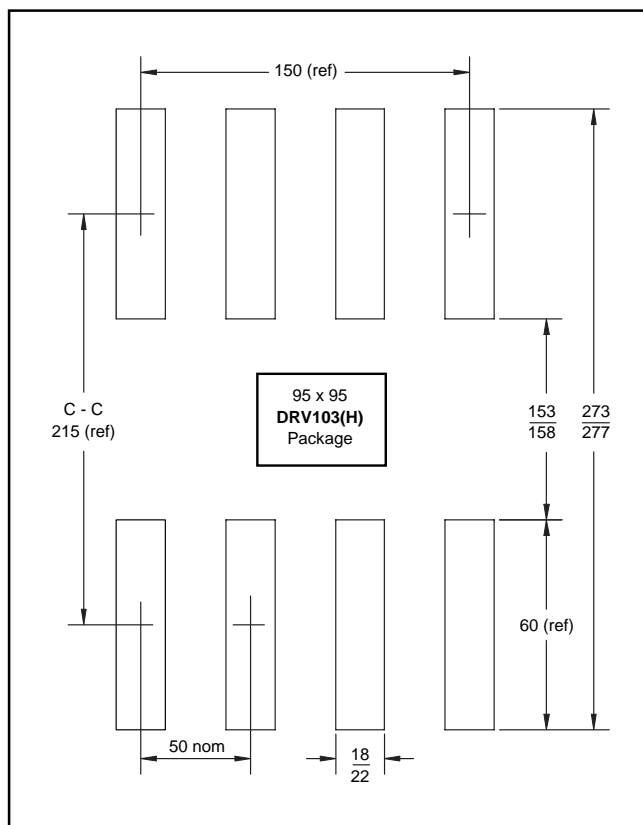
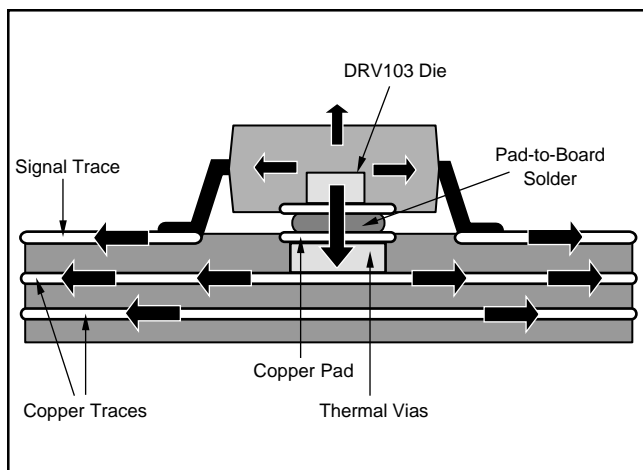
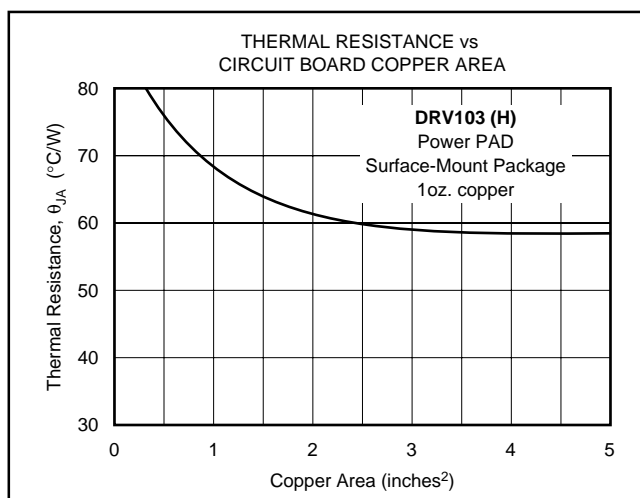

FIGURE 12. Recommended PCB Layout.
FIGURE 13. PowerPAD Heat Transfer.
FIGURE 14. Heat Sink Thermal Resistance vs Circuit Board Copper Area.
Figure 12 provides recommended PCB layouts for both the SO-8 (U) and the PowerPAD™ SO-8 (H) packages. Although the metal pad of the PowerPAD™ SO-8 (H) package is electrically connected to ground (pin 4), no current should flow in this pad. Do NOT use the exposed metal pad as a power ground connection or erratic operation will result. For lowest overall thermal resistance, it is best to solder the PowerPAD™ directly to a circuit board, as illustrated in Figure 13. Increasing the “heat sink” copper area improves heat dissipation. Figure 14 shows typical junction-to-ambient thermal resistance as a function of the PC board copper area.